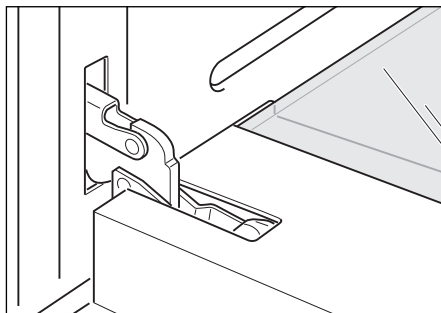

Fig. 25a
- Open the door to its full extent (Fig. 25a).